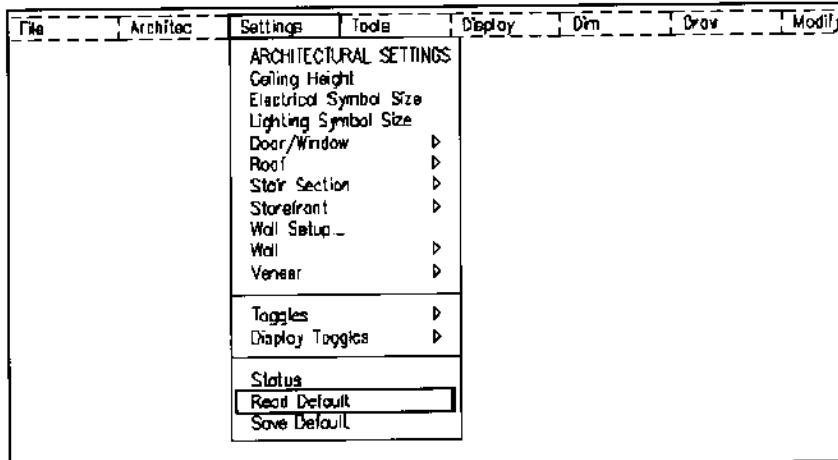

Figure 6.
2. Select Read Default from the Settings pull-down menu as shown in Figure 6.